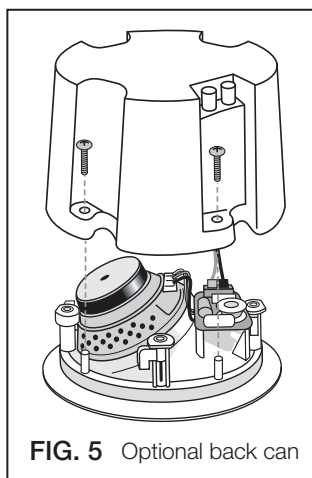

FIG. 5 Optional back can
**NOTE: (See Fig. 5 on the back) If you plan to use the optional back can enclosure, you need to attach it now (refer to back can manual for installation instructions).**